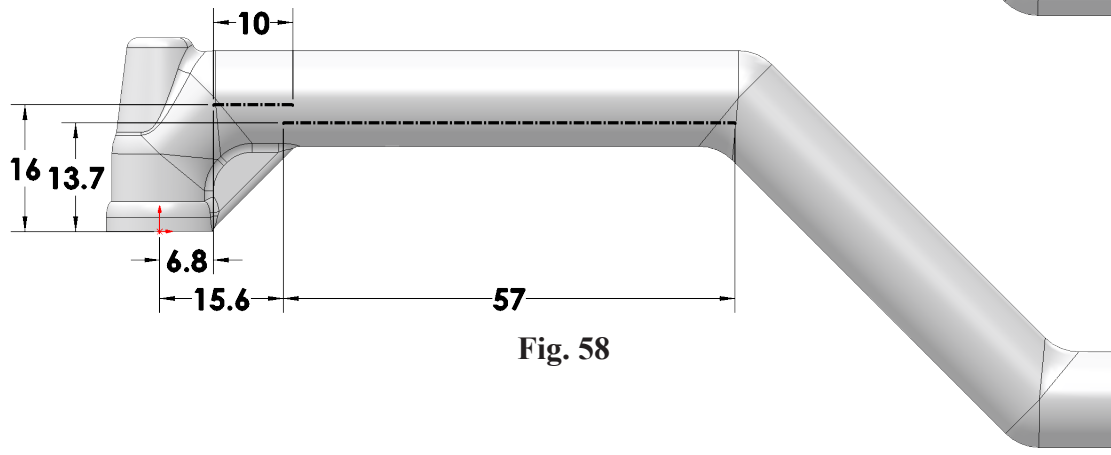

Fig. 58
Step 6. Add dimensions, **Fig. 58**.